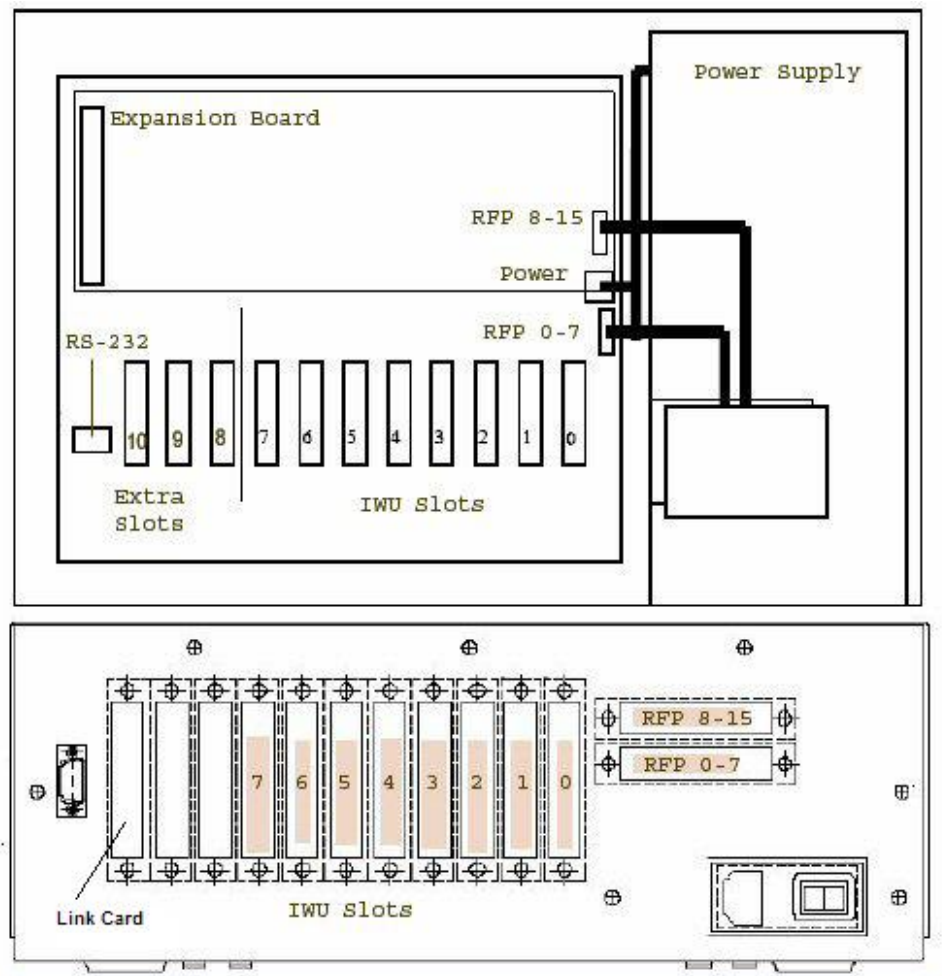

Figure 2.2 The CCFP
The CCFP comprises a power supply and a main board. One expansion board, a Link card and up to eight Inter-Working Units (IWUs) can be mounted in the CCFP in slots 0–7 (Figure 2.2). There are three extra slots 8–10.
4. Mount the expansion board on the CCFP by inserting the two plastic pins (Figures 2.2 and 2.3).
5. Insert the IWUs starting at slot no. 0 (Figure 2.2).